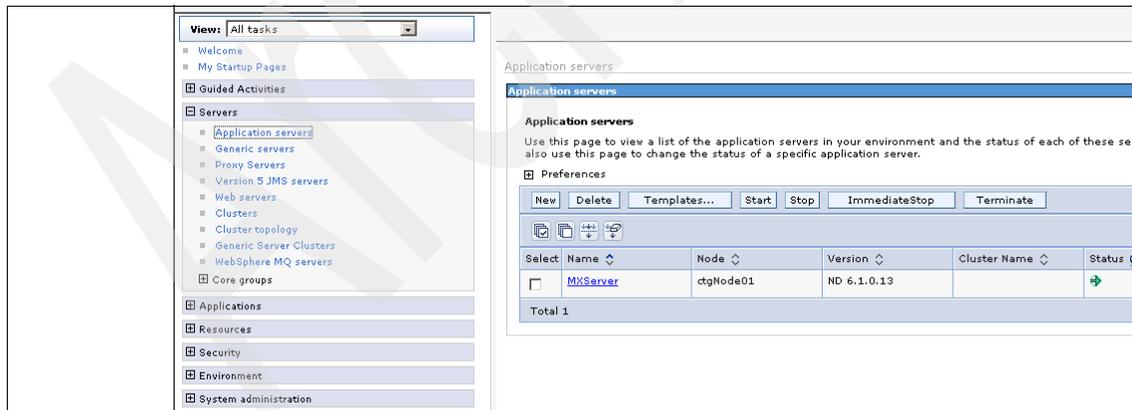

Figure A-10 MXServer
- Identify the HTTP Transfer Port Numbers; select **Expand Servers** → **Application servers**, and click **MXServer** from the main window (see Figure A-10).